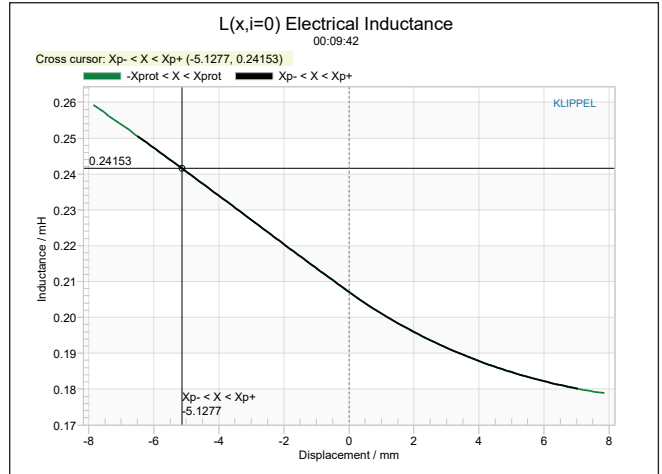

Figure 10: Klippel analyzer L(X) curve for the Scan-Speak 15W/8534T00.
Figure 10 gives the inductance curve L(X) for the Scan-Speak 15W/8534T00 5.5" midwoofer. Inductance will typically increase in the rear direction from the zero-rest